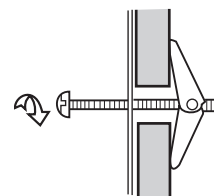

Figure 20
4. Align the Mounting Plate carefully and hold in position while tightening Toggle Bolts. Pull Toggle Bolt toward you and turn clockwise to tighten. Figure 20.